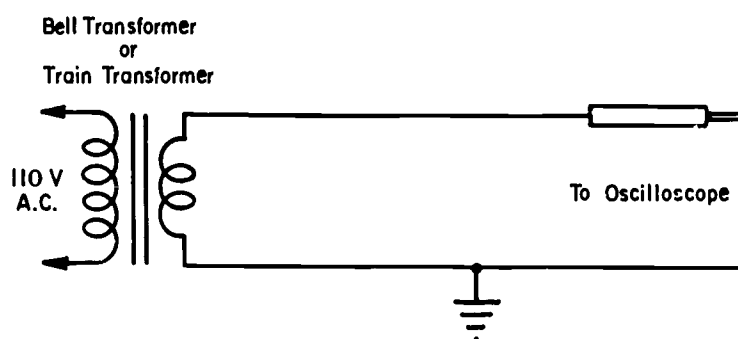

Figure 13
2. Connect the probe end of the input lead to the output of a bell transformer or train transformer as shown in Figure 13.
the low-voltage transformer output as in Figure 13. Turn the VERT ATTEN switch to the X1 position and adjust the VERT GAIN control until the pattern height is about two inches.
Calibration is accomplished as follows: For scopes with a built-in calibrating voltage, set the switch to CALIBRATION. For scopes with a test signal connector on the front panel, connect this test signal to the VERT INPUT by means of the probe and lead. For scopes with neither of the above, connect a source of undistorted sine waves to the VERT INPUT as in Figure 13. Connect an A.C. voltmeter to the vertical input of the oscilloscope. Most A.C. voltmeters read Root Mean Square (RMS) values. To determine the peak-to-peak value of this voltage, multiply the reading by 2.82. Turn the HORIZ GAIN to zero. (For this procedure it is easier to work with a simple vertical line, and this also results in greater ac-